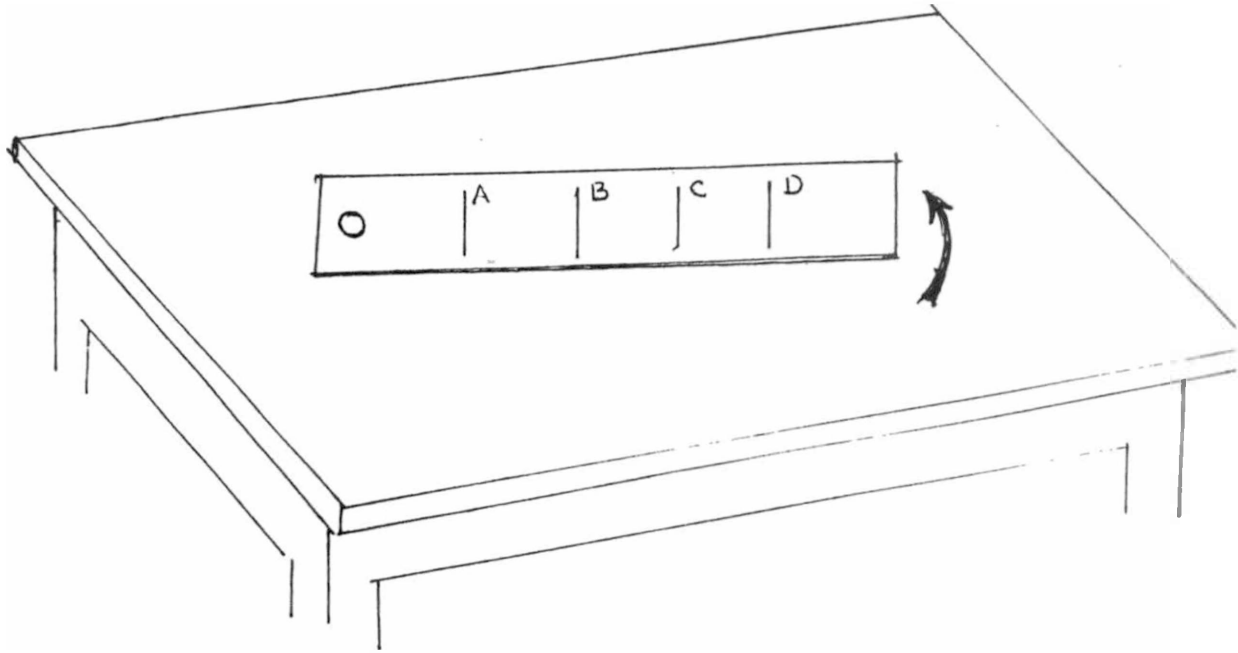

Fig.2.18
2. Fix it to a wooden frame (drawing board) by using a table pin as shown in Fig.2.18.